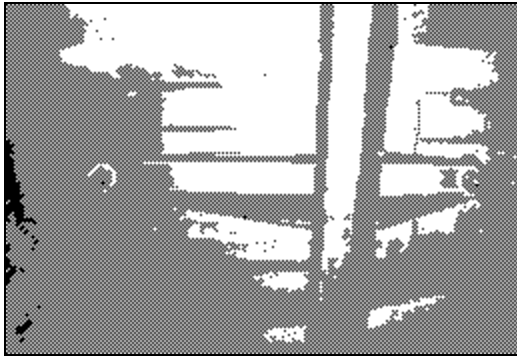

Fig. 3
6. Using the supplied nut tab, bolt, and washer install the Edelbrock Subframe Connectors on the vehicle. Slip the nut tab through the hole by the pinch weld near the rear trailing arm location; align it so the hole in the subframe connector can be bolted up. Before completely tightening the bolt, it will be necessary to install the seat reinforcement brackets. The seat reinforcement bracket installs with the connector slipping through the notch in the bracket and the longest tab of the bracket to the front of the vehicle. Bolt the seat reinforcement brackets using the supplied 10mm bolts and washers, going up from the bottom through the brackets into the factory nut plates welded to the floor pan. (see Figures 3 & 4). In the front subframe area, make sure the connector is seated up against the floor pan. The gaps between the sheet metal and the subframe connector should be minimized for good weld quality. Use C-clamps or locking pliers to hold the front of the connector in place.